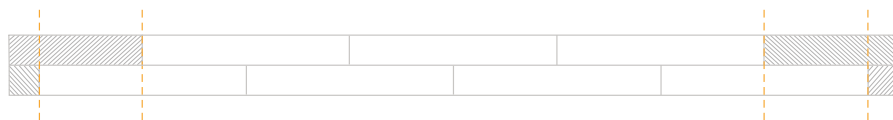

Figure 11: Gluing down initial rows with reference lines and fitted pieces.
2. Glue down the initial rows using Dinesen's recommended glue system. Distribute and then cut the first and last planks in the first two rows to size to form a harmonious floor in the full width of the room. Always consider the interplay with adjacent rooms. Lay the first row of planks 10-15 mm from the wall. Use temporary spacing blocks. Use string to check that the first row is completely straight. See Figure 11.